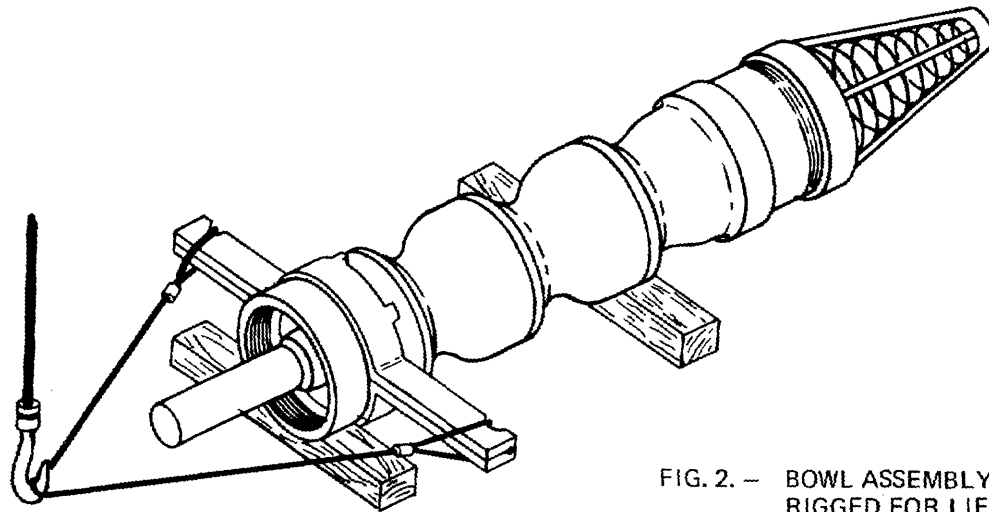

FIG. 2. — BOWL ASSEMBLY RIGGED FOR LIFTING.
3. Install a friction clamp to the upper end of the bowl assembly beneath a convenient shoulder. Attach a cable sling to the friction clamp far enough out of the ears to allow removal of the sling after the friction clamp is resting on the setting beams. Also, make sure that the sling is long enough for the load hook to clear the shaft protector when the bowl assembly is uprighted. SEE FIG. 2. Leave the short piece of protective tubing installed until after the bowl assembly has been hoisted to the vertical position.